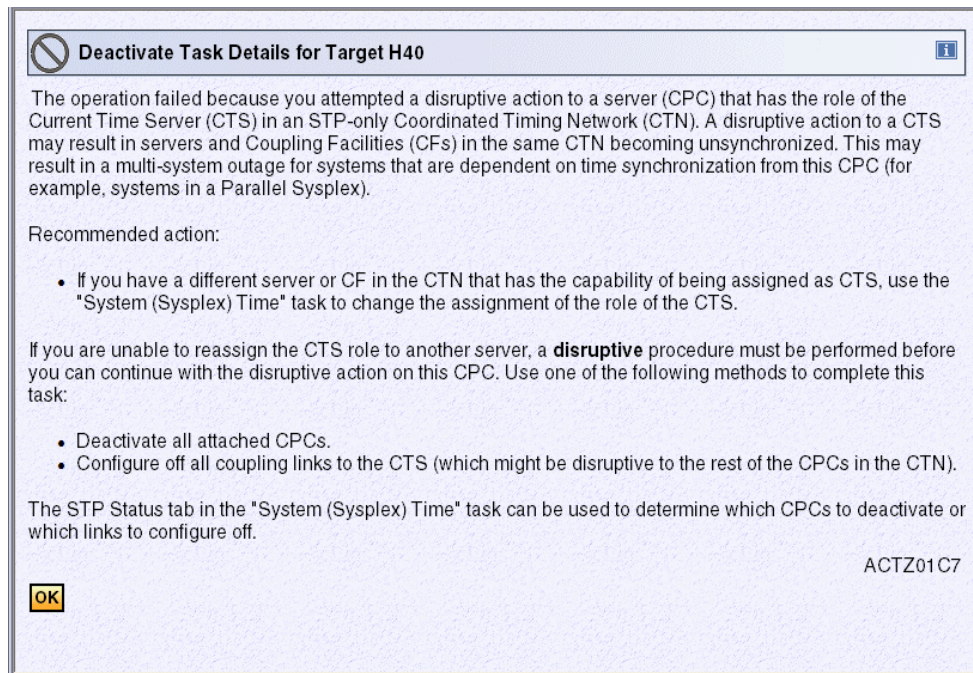

Figure 7-3 Message ACTZ01C7 - Deactivate Task details
5. Clicking **Details** displays message ACTZ01C7 (Figure 7-3). No alternative action is possible from this window. The user can only acknowledge that the request failed and click **OK**.